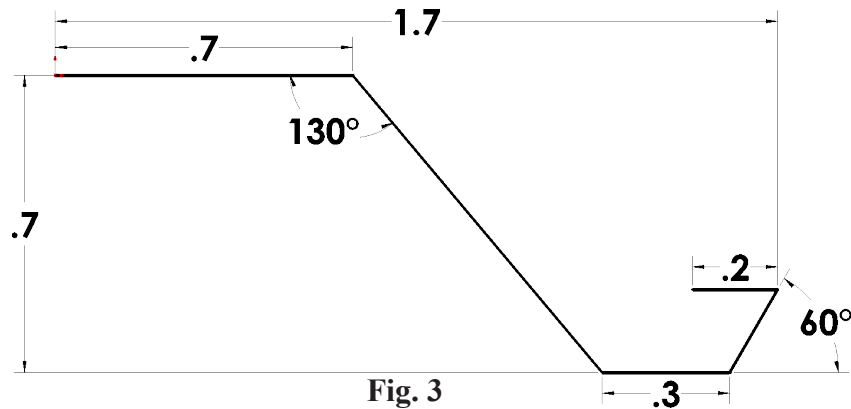

Fig. 3
Step 5. Click **Smart Dimension** (S) on the Sketch toolbar.
Step 6. Add dimensions, **Fig. 3**.